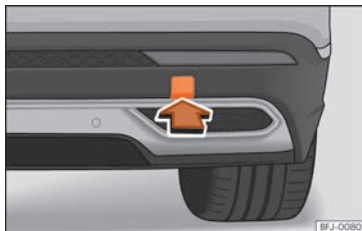

Fig. 50 On the right side of the rear bumper: remove the cover.
»» Fig. 50.
- Press the bottom side of the lid »» Fig. 50 to unclip it.